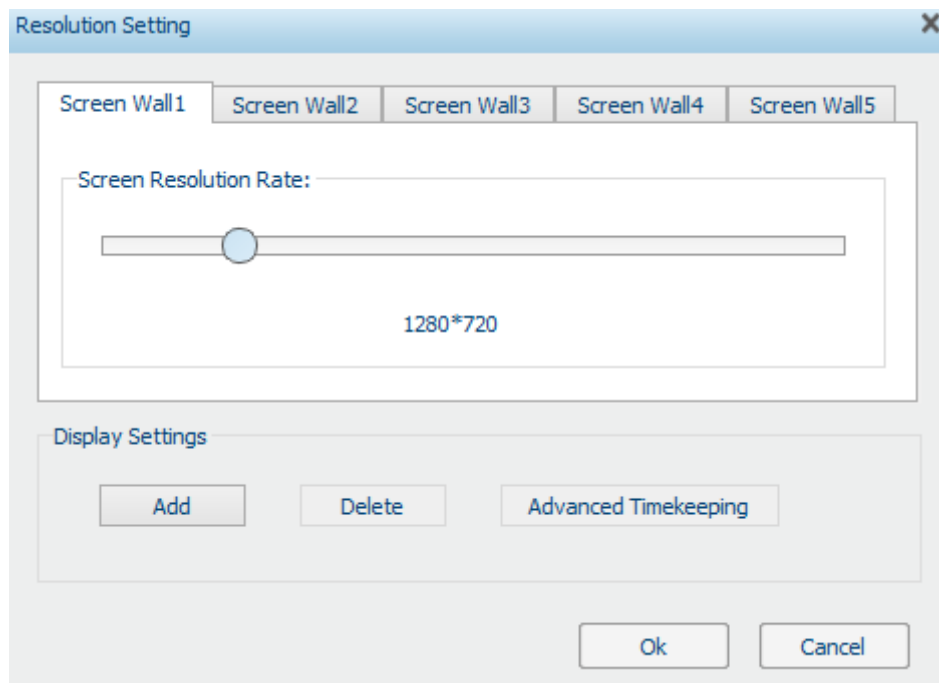

Figure 24: Resolution Setting window
- You will then be presented with the **Resolution Setting** window as shown below in figure 24